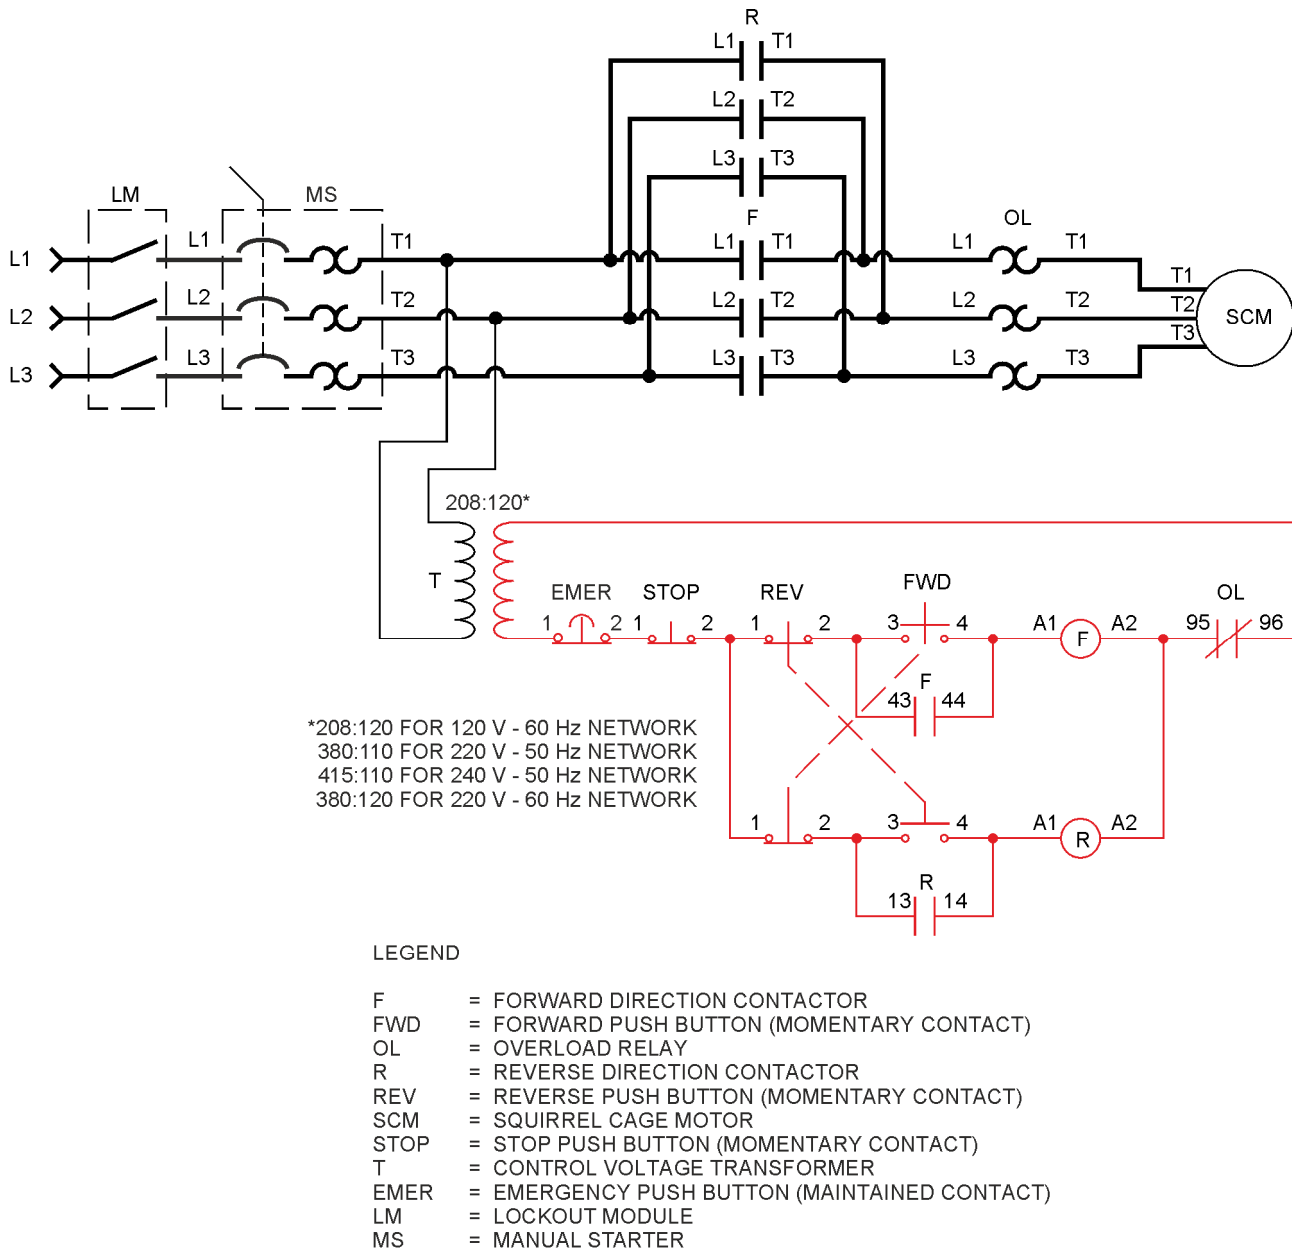

Figure 3-9. Push button interlocking circuit.
When phase reversal is executed in magnetic circuits, one contactor is used for each direction. But a short-circuit can occur if the two contactors are energized at the same time. Look at the power circuit in Figure 3-9, for example. If all contacts of the F and R contactors close, lines 1 and 2 will be short-circuited. That is the reason why forward and reverse contactors are usually electrically and/or mechanically interlocked together.
When the FWD push button in Figure 3-9 is pressed, the coil (F) is energized and the related holding contact closes. If the REV push button is pressed while the motor is running in the forward direction, the forward control circuit de-energizes. At the same time, the reverse contactor (R) is energized and held closed, making the motor run in the reverse direction. Note that it is not necessary to press the STOP push button to reverse the direction. This fact facilitates plugging.
Connect the circuit shown in Figure 3-9.
24. Connect the circuit shown in Figure 3-9, this time using the two contactors from the Dual Contactors module.